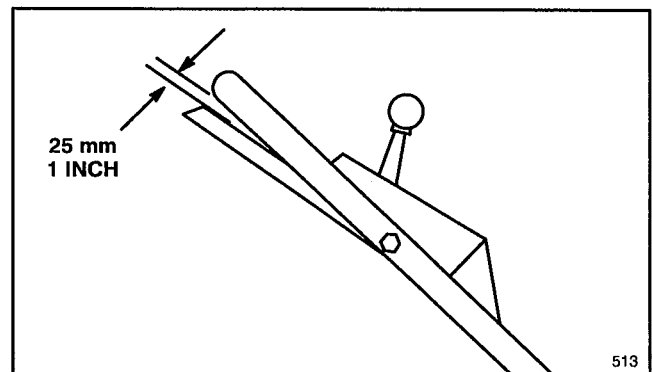

Figure 24
3. CHECK ADJUSTMENT—Slowly pull mower backward while control bar is gradually moved toward handle. Adjustment is correct when rear wheels stop turning and control bar is about 25 mm (one inch) from handle (Fig. 24) and wheels start to turn freely.